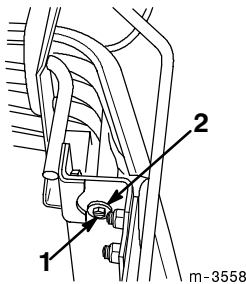

Figure 6
17. After servicing the battery, replace the front grill of the tractor and secure the grill with two #8 x .50" long grill screws and .75" O.D. grill washers in the upper two grill mounting holes (Fig. 6).